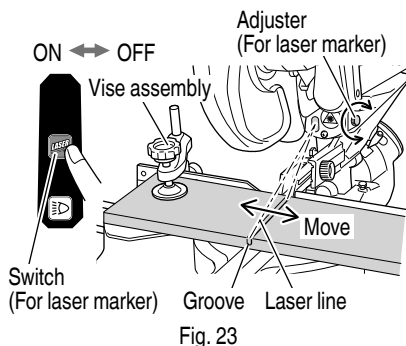

Fig. 23
- (1) Light up the laser marker and make a groove of about 5 mm deep on the workpiece that is about 20 mm in height and 150 mm in width. Hold the grooved workpiece by vise as it is and do not move it. For grooving work, refer to "13. Groove cutting procedures" on page 35.
- (2) Then, turn the adjuster and shift the laser line. (If you turn the adjuster clockwise, the laser line will shift to the right and if you turn it counterclockwise, the laser line will shift to the left.) When you work with the ink line aligned with the left side of the saw blade, align the laser line with the left end of the groove (Fig. 23). When you align it with the right side of the saw blade, align the laser line with the right side of the groove.
- (3) After adjusting the position of the laser line, draw a right-angle ink line on the workpiece and align the ink line with the laser line. When aligning the ink line, slide the workpiece little by little and secure it by vise at a position where the laser line overlaps with the ink line. Work on the grooving again and check the position of the laser line. If you wish to change the laser line's position, make adjustments again following the steps from (1) to (3).